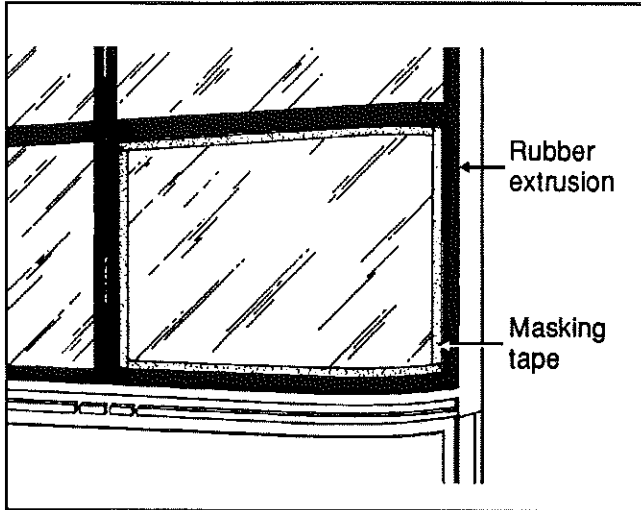

Fig. 33
5. Mask the windshield following the contour of the rubber extrusion. See figure 33.